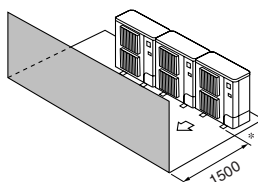

Fig. 2-10
- ③ Kun forhindringer foran (Fig. 2-10)